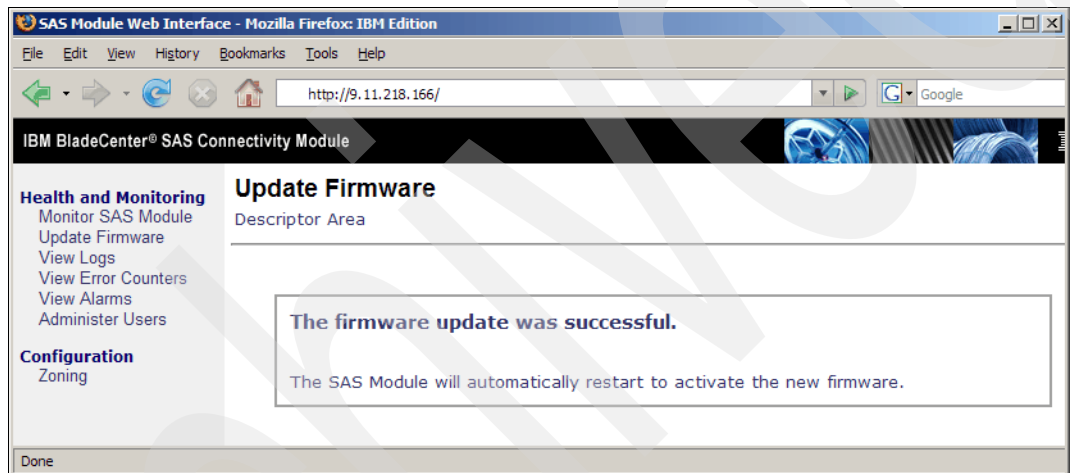

Figure 19-10 SAS Connectivity Module - Update successful
5. Click **OK** or **Cancel**. If the installation of the new firmware file is successful, an installation confirmation window opens, as shown in Figure 19-10. If there are errors during the installation, an error message window opens.